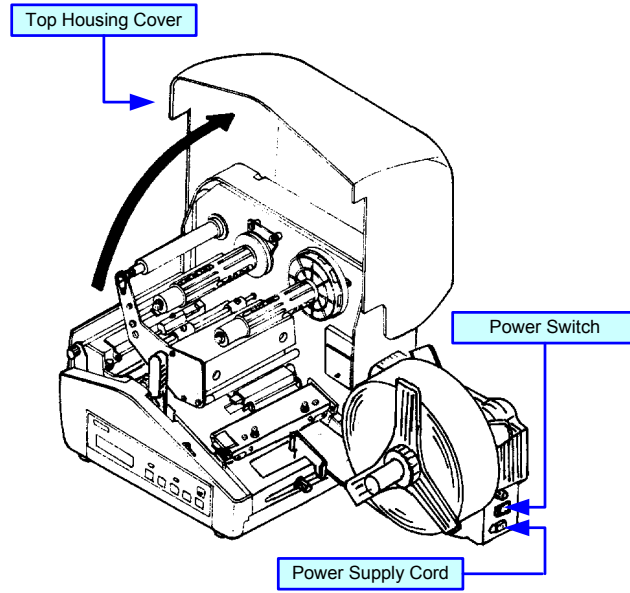

Figure 3-4a, Ribbon Loading
- 1 Switch the printer power switch off and disconnect the power supply cord (**Figure 3-4a**).